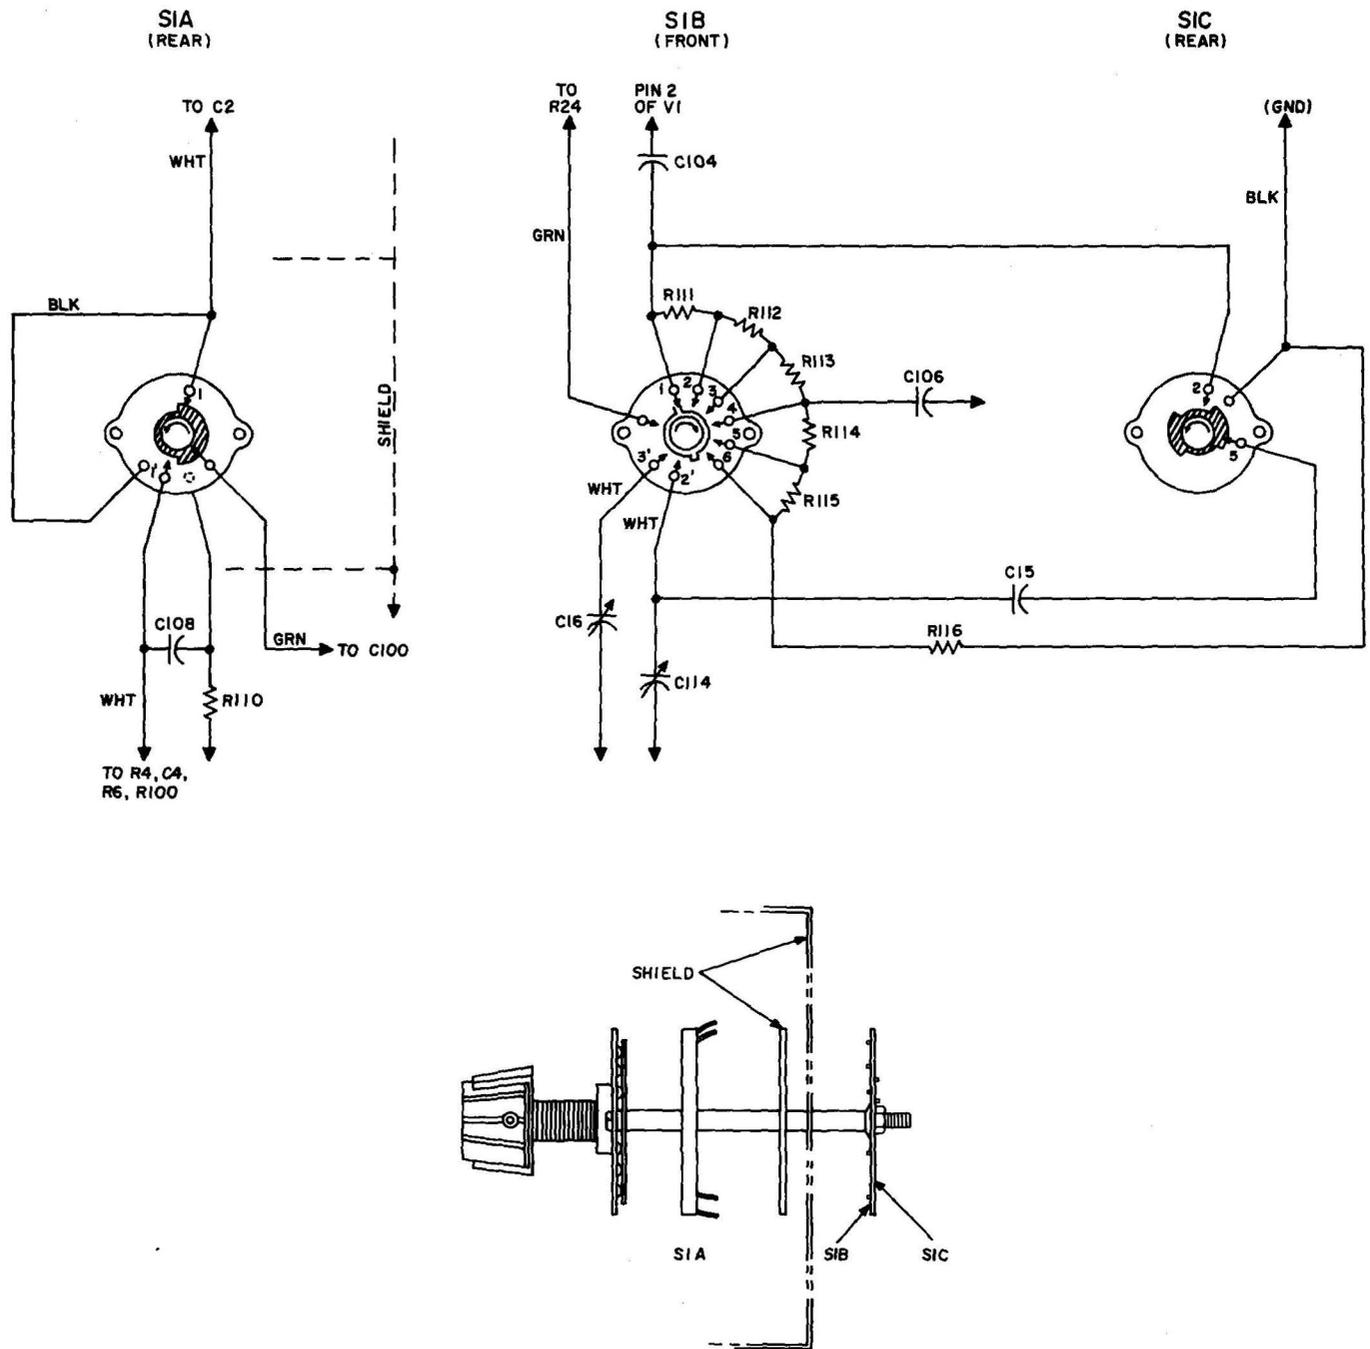

Fig. 8—Range Switch Diagram—Models Listed in 1.06
4.03 The step attenuator in the cathode circuit of V1 reduces the voltage to be measured to a value of 1 millivolt or less for application to the voltmeter amplifier. Each step of the attenuator lowers the signal level by exactly 10 dB. The attenuator consists of six precision wirewound resistors which are selected for very high accuracy and carefully mounted on a 12-position rotary switch. The RANGE switch rotor has two contactors (Fig. 8 and 9). The first rotor finger contacts each resistor in turn while the input divider is in the nonattenuating position. The second rotor finger repeats these contacts while the input attenuator is in the attenuating position. On the 0.003-volt range, a fixed capacitor (C15) is automatically connected to provide flat frequency response beyond 4 MHz. On the 0.003- and 0.01-volt ranges, separate adjustable capacitors (C14 and C16) are automatically connected to the attenuator to permit setting the frequency response at 4 MHz. These capacitors are also connected to the attenuator on the 3- and 10-volt ranges. Fixed capacitor C106 (permanently connected) flattens the frequency response on the 0.03- and 30-volt ranges.